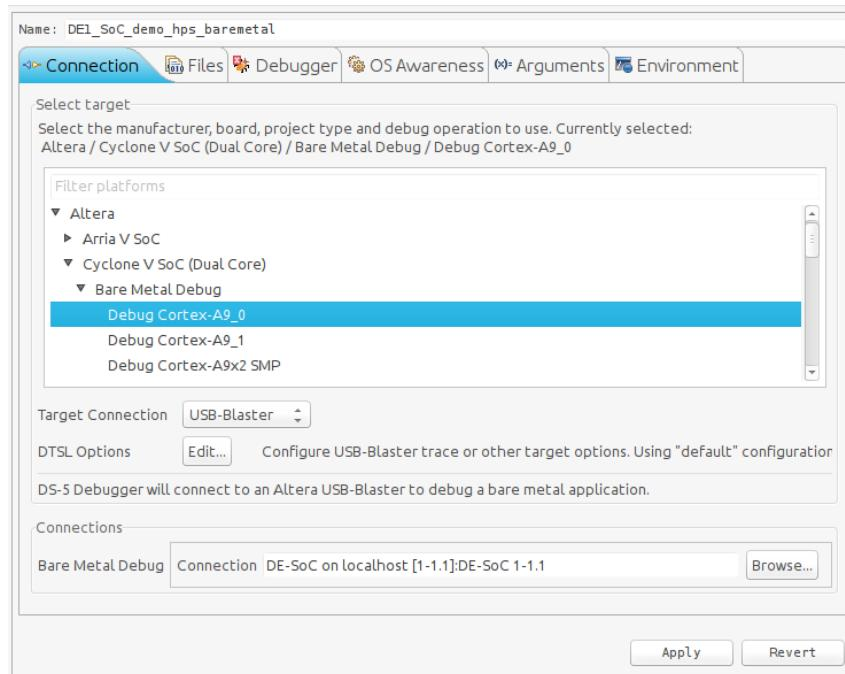

Figure 8-29. Debug Configuration "Connection" Tab
- d. You should have something similar to Figure 8-29.